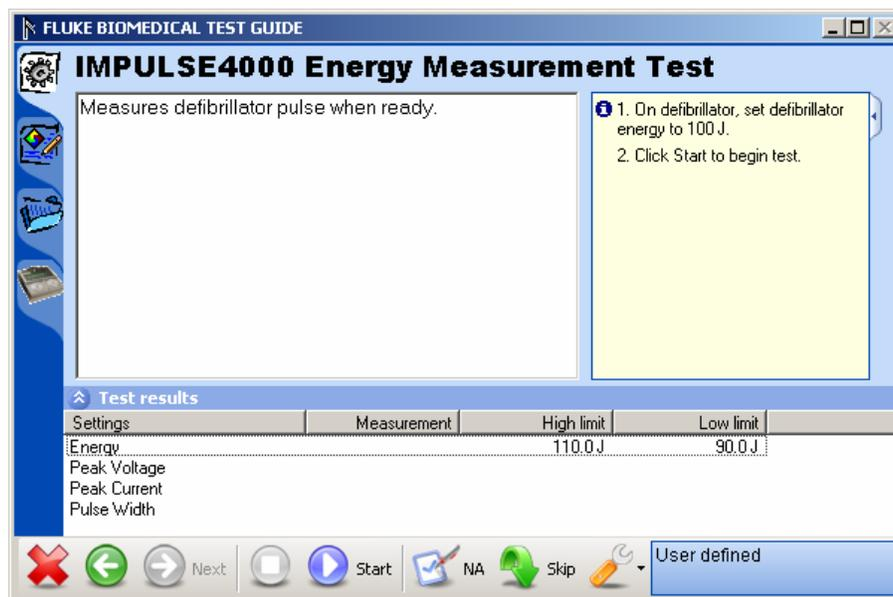

Figure 3-1. Ansur Test Guide Window
When you open a Test template file for the Impulse 4000 plug-in, the TEST GUIDE window opens. The example in Figure 3-1 shows the TEST GUIDE panes for an Energy Measurement test.
First connect the defibrillator to the Analyzer (refer to the *Impulse 4000 User Manual* for connection instructions) and set defibrillator to the energy setting displayed in the information block on the right side of the test guide. For example, Figure 3-1 shown earlier displays an energy setting with both high and low limits (in Joules).
1. Click **Start** in the TEST GUIDE toolbar (see Figure 3-1).